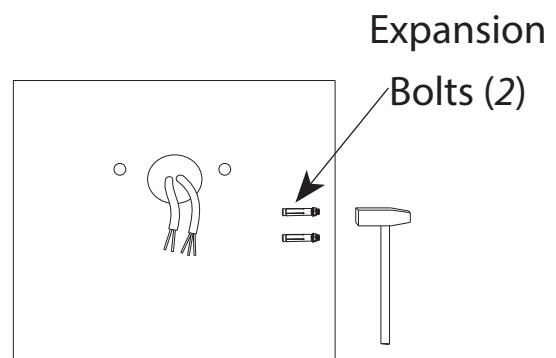

Figure 2
Step 2: Hammer in expansion bolts which are provided into the drilled holes as shown in Figure 2 and loosen the nuts.